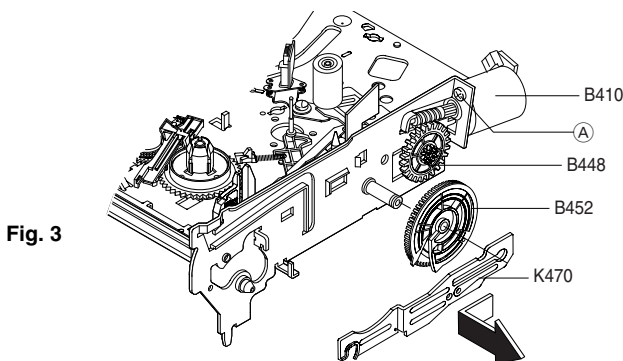

Fig. 3
- Undo the screw **A** (Fig. 3).
- Remove the loading motor (B410, Fig. 3) to the rear.
- Turn the white gear joint (B448, Fig. 3) counterclockwise until the cassette lift is in the "Eject" position.
- Slide the lift slider (K470, Fig. 3) to the front then remove it.
- Remove the black cam wheel (B452, Fig. 3) and the white gear joint (B448).
- Insert the white gear joint (B448, Fig. 3).
- Insert the lift slider (K470, Fig. 3), press on the cam wheel (B452) then slide it backwards.
- Turn the gear joint (B448, Fig. 3) clockwise to its end stop.
- Press on the release lever (B478, Fig. 11) to disengage it then turn the white gear joint (B448, Fig. 3) clockwise until the left threading roller unit just doesn't touch the back tension arm.